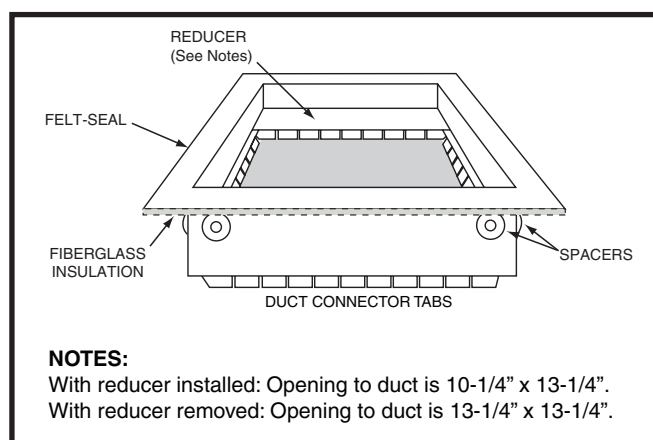

Figure 9. Duct Connector
- This furnace is certified for use on wood flooring or supports, but must not be installed directly on carpeting, tile, or any combustible material other than wood flooring. **NOTE:** The furnace may be installed on combustible flooring when installed on a manufacturer's approved duct connector (Figure 9). This factory supplied accessory must be installed in the floor cavity and attached to the supply air duct before the downflow furnace is installed.